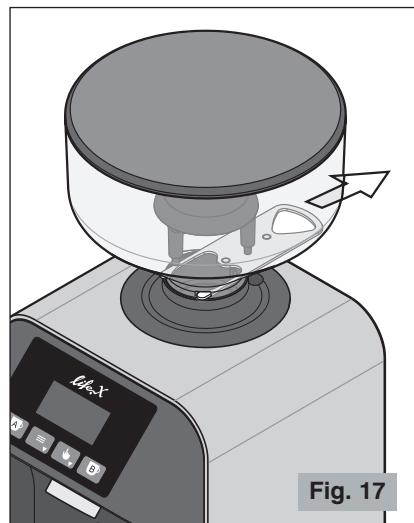

Fig. 17
- ⚠ Make sure that shutter is completely open (to the last click) (see Fig. 17).**